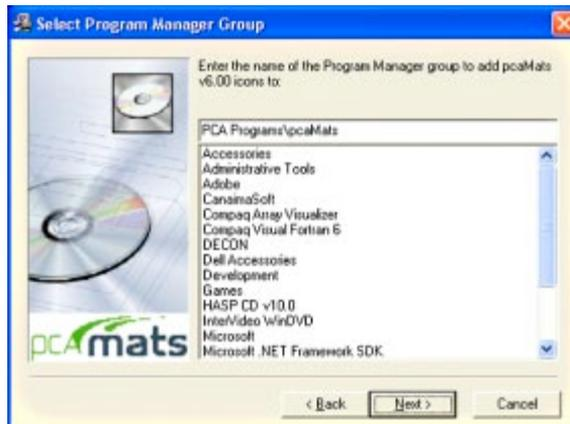

Figure 1-8 — Select Program Manager Group
10. The next step is to enter the group name as shown in Figure 1-8. This name will be used by Windows in the **Start/Programs** menu. Press the NEXT button to go to the next step.